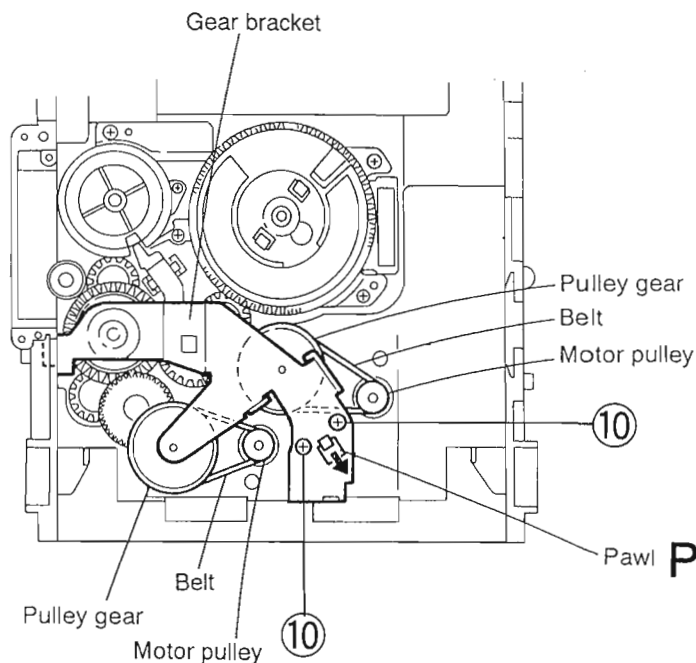

Fig.3-53
(See Figs.3-53~3-56)
1. Remove the two screws ⑩ retaining the gear bracket (See Fig.3-53).
2. While pressing the pawl "P" fixing the gear bracket in the arrow direction, remove the gear bracket (see Fig.3-53).
4. Remove the belts respectively from the right and left actuator motor pulleys and pulley gears (See Fig.3-53).